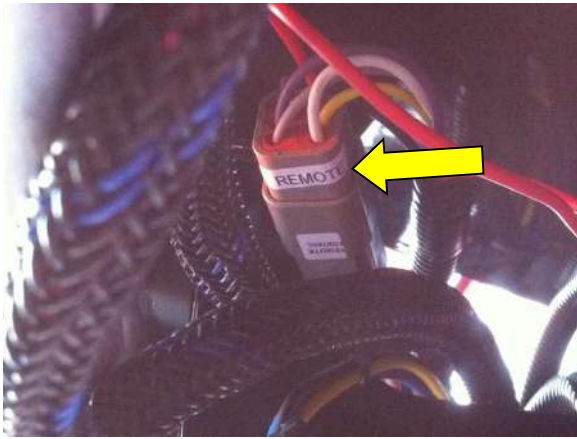

FIG. 12
6. Find the connector available from the truck marked REMOTE CONTROL and plug the connector of the main harness marked REMOTE into it (FIG. 12)